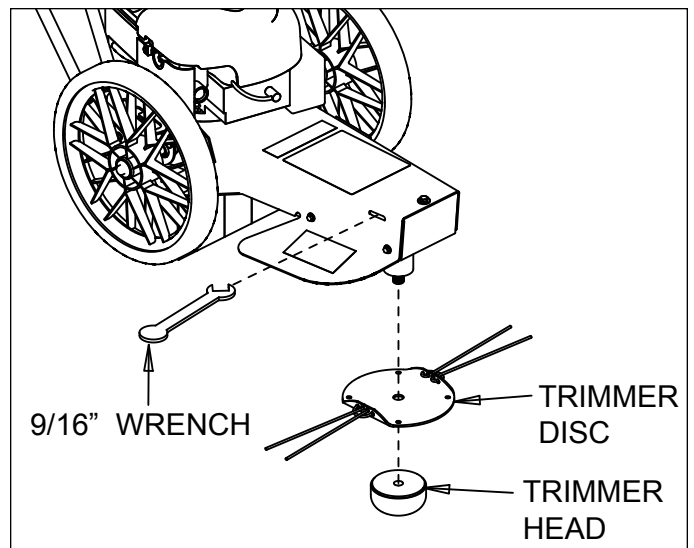

Figure 5.1 - Cutting Height Adjustment
1. Insert a 9/16" open end wrench into the trimmer frame (Figure 5.1).